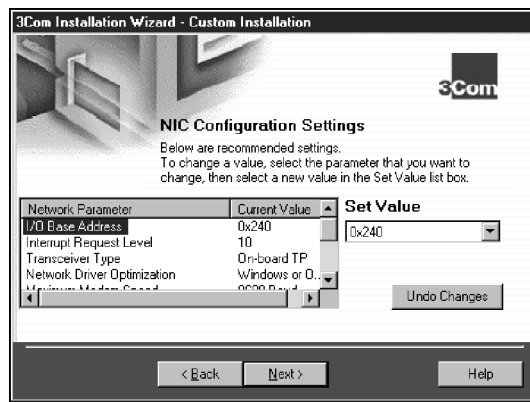

Figure 3-2 NIC Configuration Settings Screen
When you configure the NIC using the 3Com Installation Wizard, you must make sure that this setting matches the value displayed on the NIC Configuration Settings screen. See Figure 3-2.
The NIC Configuration Settings screen appears, as shown in Figure 3-2. The list box displays recommended configuration settings for the NIC. You can either accept the recommended settings or change one or more to suit your operating environment.
- 2 In the **Set Value** selection box, click the scroll arrow to select the I/O range setting that you wrote down in "Configuring the NIC" in Chapter 2. See Figure 3-2.